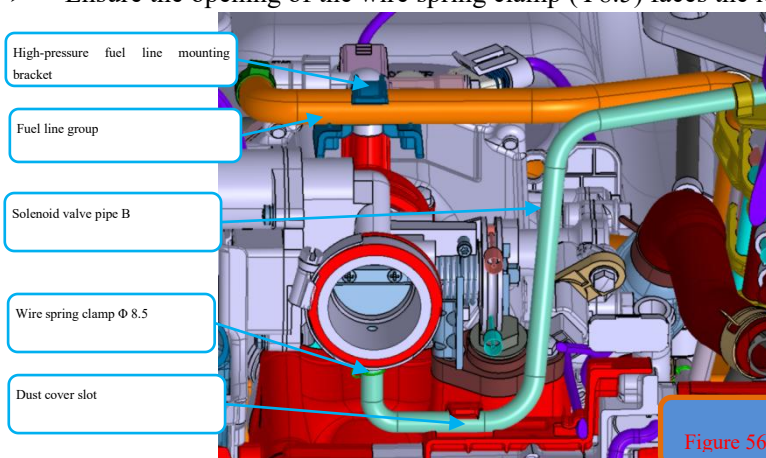

Figure 56
- (3) Secure the fuel pipe group inside the slot of the high-pressure fuel pipe mounting bracket, as shown in Figure 56.
- (4) Secure solenoid valve connecting pipe B inside the dust cover slot, as shown in Figure 56.